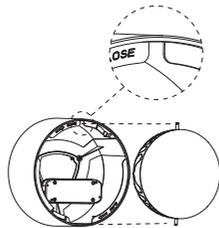

Figure.6
5. Align the pins of the product to the gap indicated by the arrows on the body and place them on the body and rotate clockwise until a locking sound is heard. (Figure.6)